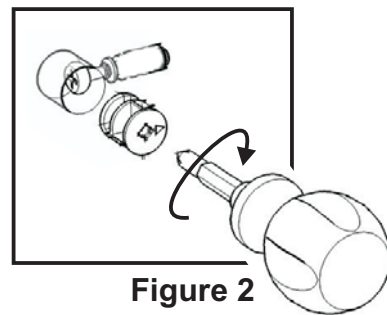

Figure 2
Attach Back Rail (H) to Side Panel (B) with Cam Locks. (See figure 2)